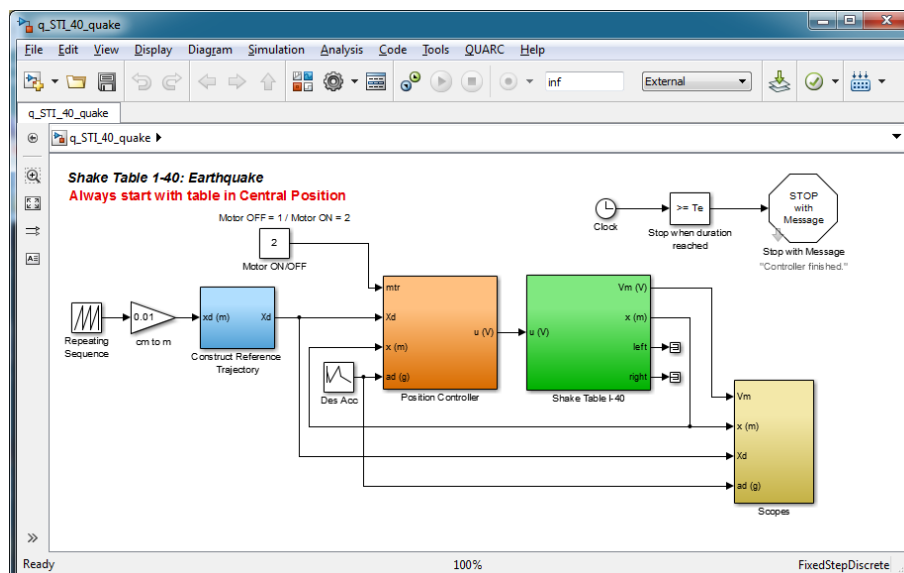

Figure 3.7: Simulink model used to command earthquake to the Shake Table I-40 using QUARC
The q\_STI\_40\_quake Simulink diagram shown in Figure 3.7 can be used to replay earthquake on the Shake Table I-40 system using QUARC®. Recorded earthquake data, i.e., data collected when an actual earthquake occurred, can be scaled down and ran on the shake table. Four historical earthquakes have been supplied for the user: Northridge, Kobe, El-Centro, and Mendocino. The user can also specify and create a pre-defined compound sine wave trajectory.
2. Open the `q_STI_40_quake.mdl` Simulink model, shown in Figure 3.7. For more information on configuring `q_STI_40_quake`, see Section 5.6.